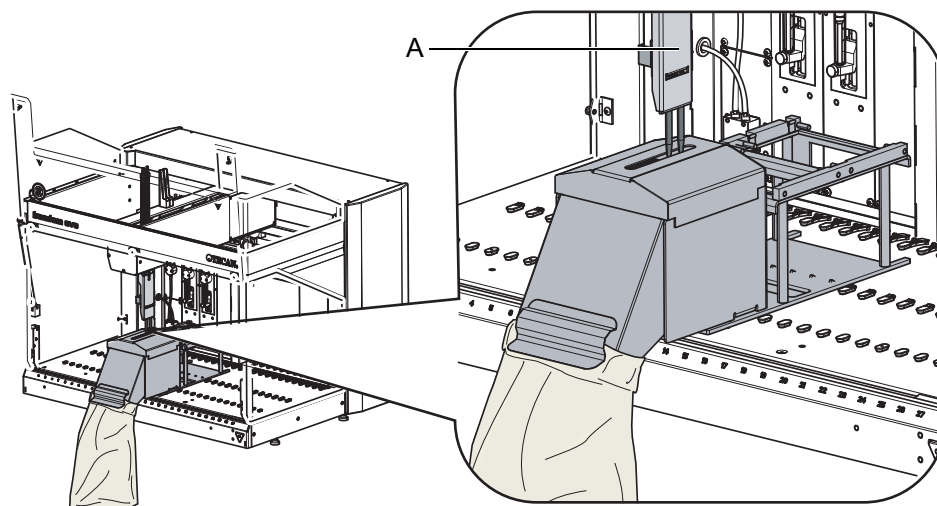

Fig. 7-17 Lower DiTi eject option
- 1 Wipe the surface of the rocker (A) with a suitable cleaning agent (e.g. alcohol, disinfectant) Fig. 7-17 , Fig. 7-29.